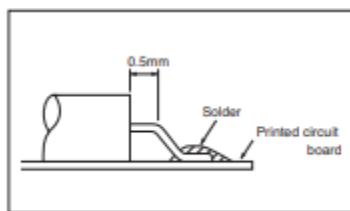

Figure 5
(1) Bend the lead so that the lead will remain straight for more than 0.5mm from the case when soldering a crystal unit after bending. If not, the glass may be cracked (see Figures 5 and 6).